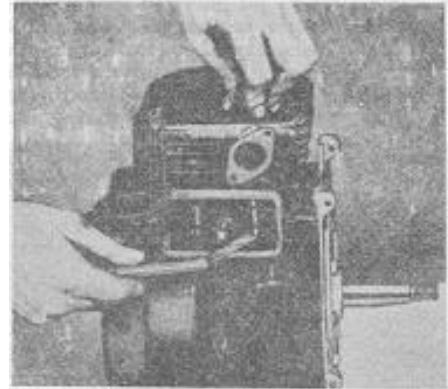

Figure 27
- Figure 27 illustrates checking valve clearance. Intake valve clearance should be .006/.008 cold. Exhaust valve clearance should be .015/.017 cold. Valves that do not have the correct clearance must be removed and ends ground until desired clearance is obtained. ENDS MUST BE GROUND SQUARE AND ALL BURRS MUST BE REMOVED.